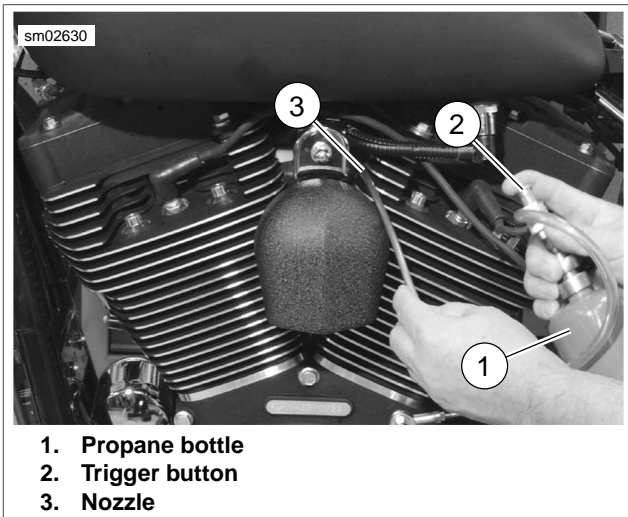

Figure 4-71. Checking for Leaks
- See Figure 4-71. Aim nozzle (3) toward possible sources of leak such as intake manifold mating surfaces.
- Press and release trigger button (2) to dispense propane. Tone of engine will change when propane enters source of leak. Repeat as necessary to detect leak.